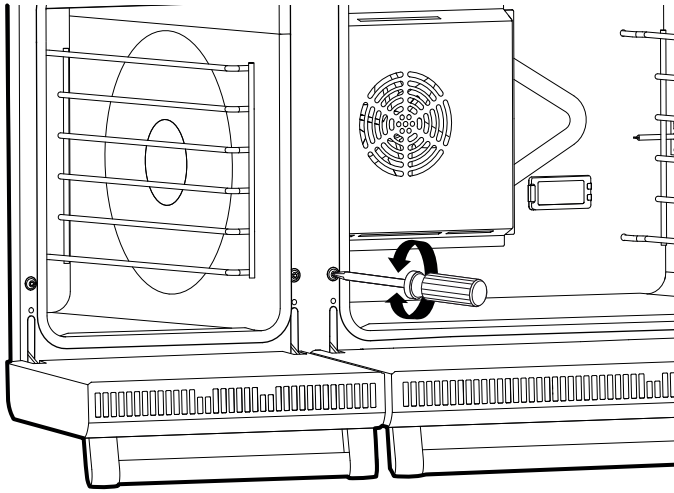

Figure 6: Hinge Receiver Adjustment Screw
- If door or handle appears slightly tilted, you may adjust the hinge receiver by rotating the large Torx-head screw located directly above the hinge receiver with a T-30 Torx driver. Rotate each screw respective to its side and direction the door needs to be adjusted (see Figure 6).